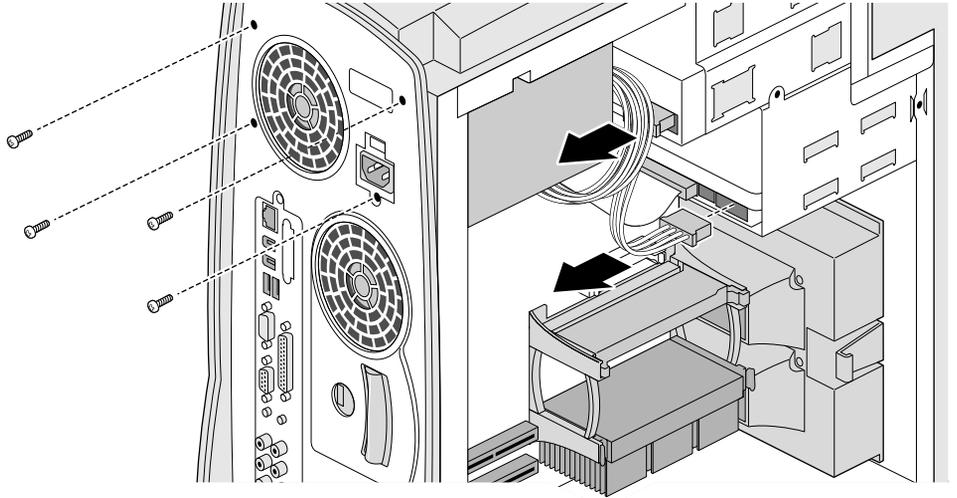

Figure 7-2 Removing the Power Supply Screws and Cables
5. Disconnect the rest of the cables and remove the power supply, as shown in Figure 7-2